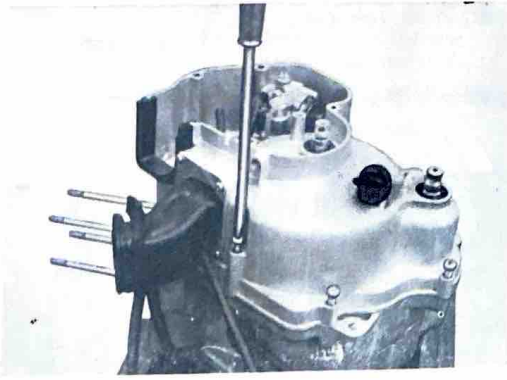

Fig. 3-8-3
- c. Remove the pan-head screws from the crankcase cover (R), and take off the cover. (Fig. 3-8-3 and 4)